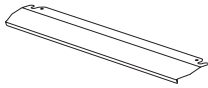

Figure 9
1. A safety panel is designed to protect control panel and the buttons when the oven is in grill mode. (figure 9)